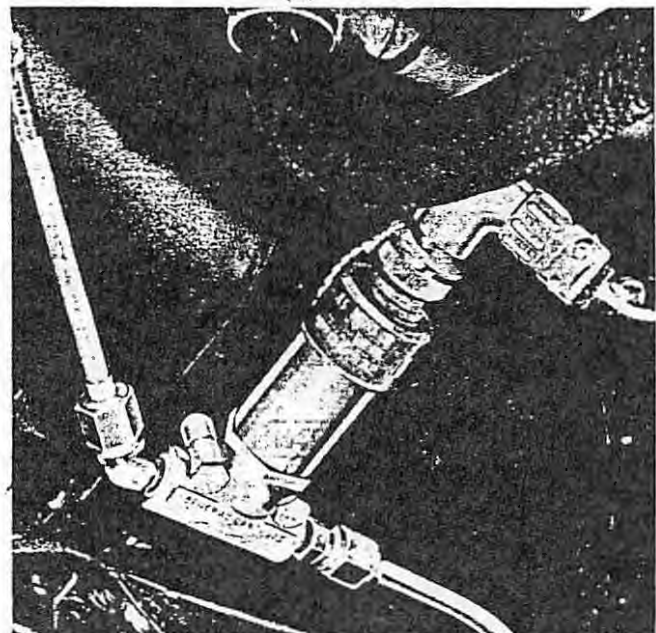

Figure 5-29. Primer Solenoid
- b. Unsafety and remove electrical connection (figure 5-29).